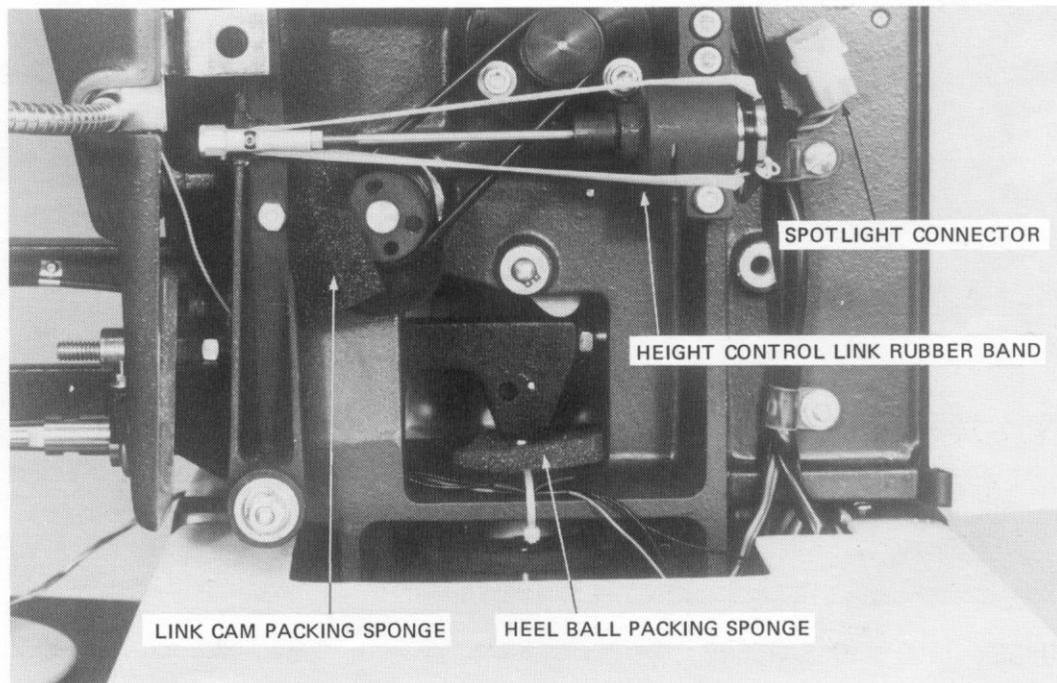

FIG. 5-4 MAIN HEAD PACKAGING - INNER RIGHT SIDE
- 5.1.16 Open the right head cover and remove the rubber band that ties the height control link to the main LVDT holder (Fig 5-4).
- 5.1.17 Remove the sponge packing from beneath the heel ball of the bonding head and the moving coil of the force actuator (Fig 5-4).